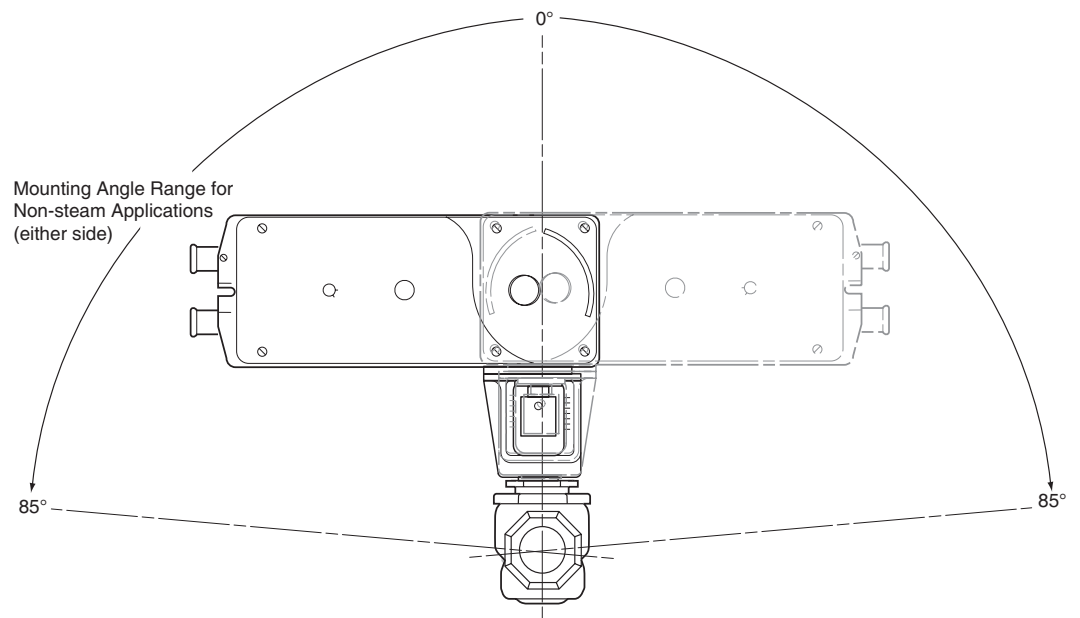
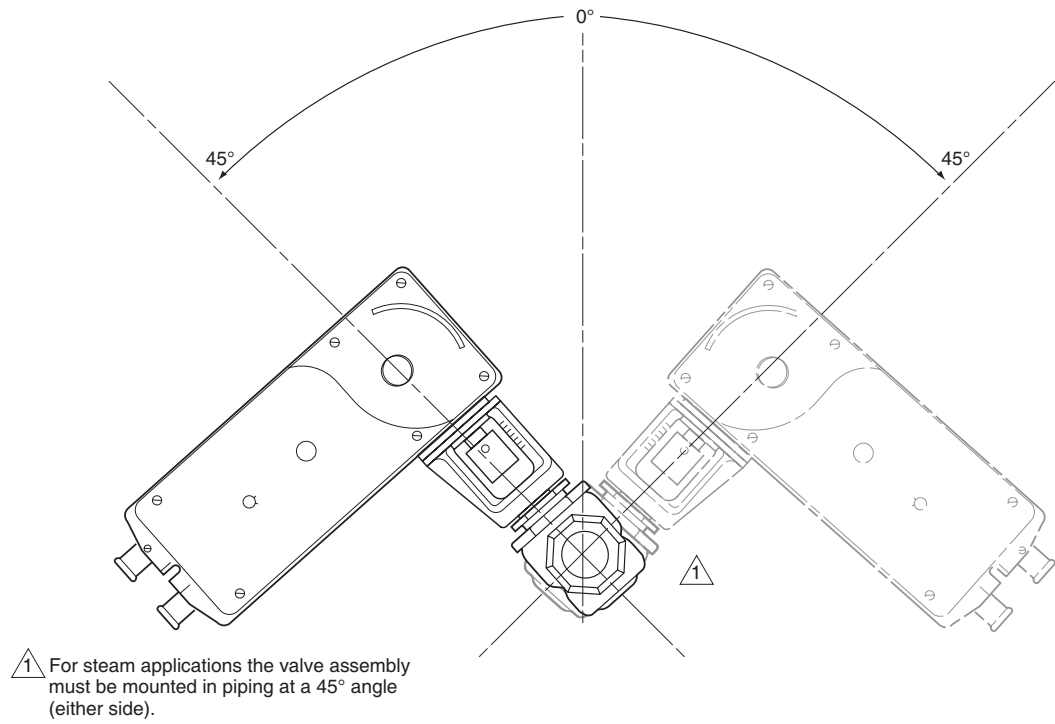

Figure-15 Typical Mounting Position.
Figure-16 Typical Mounting Position for Steam Applications.
- The actuator must be mounted above the centerline of the valve body. This will minimize the risk of damage to the actuator in the event of condensation. Refer to Figure-15, Figure-16, and Figure-17.
The valve should be mounted in a weather-protected area, in a location that is within the ambient temperature limits of the actuator. The installation of the actuator assembly should provide clearance on all sides to allow for any maintenance that may be needed (see Figure-15 and Figure-17). Install the valve according to the instructions in the appropriate valve body General Instructions sheet (see Applicable Literature, page 2).
- On non-steam applications the globe valve assembly must be mounted so that the actuator is at least 5° above the horizontal (Figure-15) to ensure that any condensate that forms will not travel into the mounting bracket or actuator.
- On steam applications, the globe valve assembly must be mounted at 45° from vertical. (Figure-16).